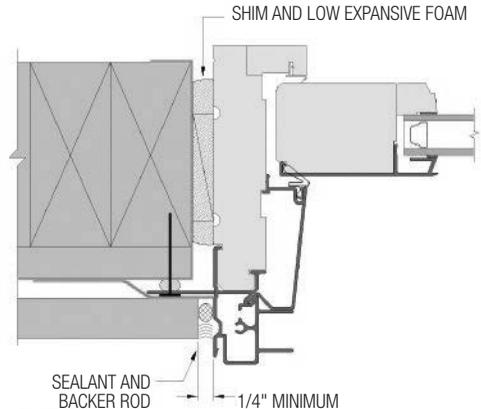

FIG. 23: SIDE JAMB
- After siding or wall exterior is complete, apply backer rod and sealant between the door frame and siding material on both sides. Sealant bead must extend to back of accessory groove (3/8" Min.) (Fig. 23, 24 & 25)